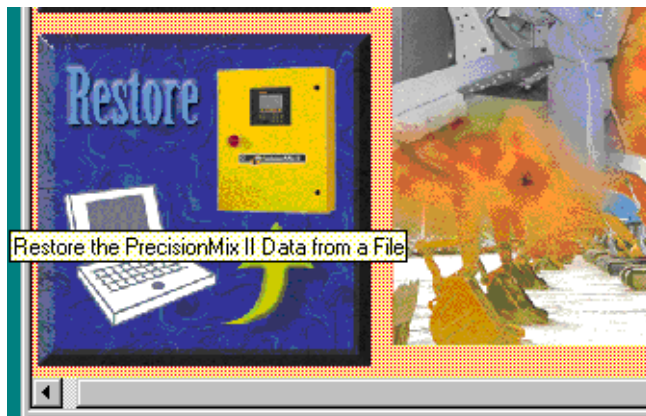

Fig. 13.13
1. Select File ► Restore PrecisionMix II (Fig. 13.12) from the toolbar or press the restore button (Fig. 13.13) on the main window.